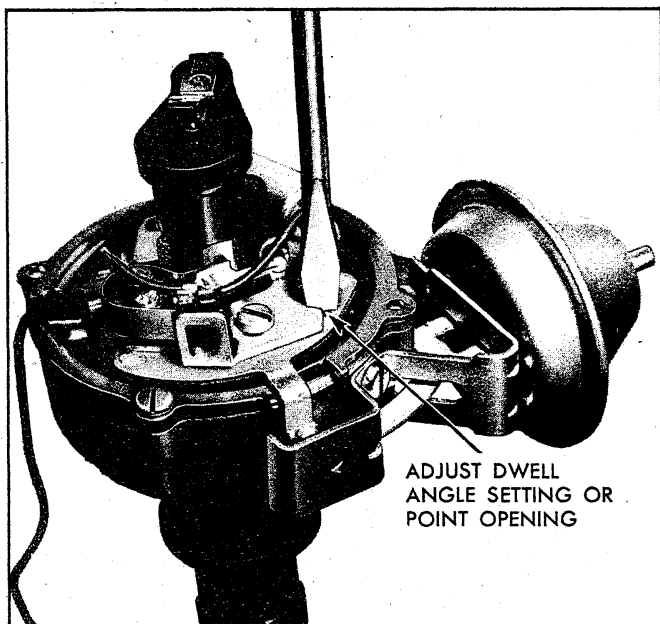

Fig. 10i—Setting Point Opening
4. Use a screw driver (fig. 10i) to move the point support to obtain a .019" opening for new points and a .016" opening for used points.